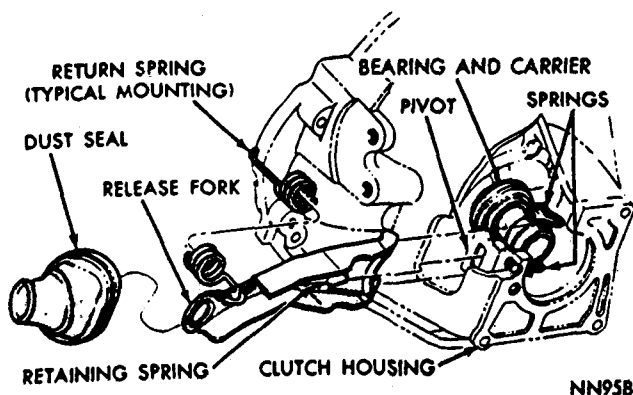

Fig. 4—Release Fork, Bearing, and Carrier
(secondary) and also "This Side Out" for easy identification and application (Fig. 4).
(5) Remove the clutch release bearing and carrier assembly from clutch release fork (Fig. 4) then remove release fork and boot from clutch housing.